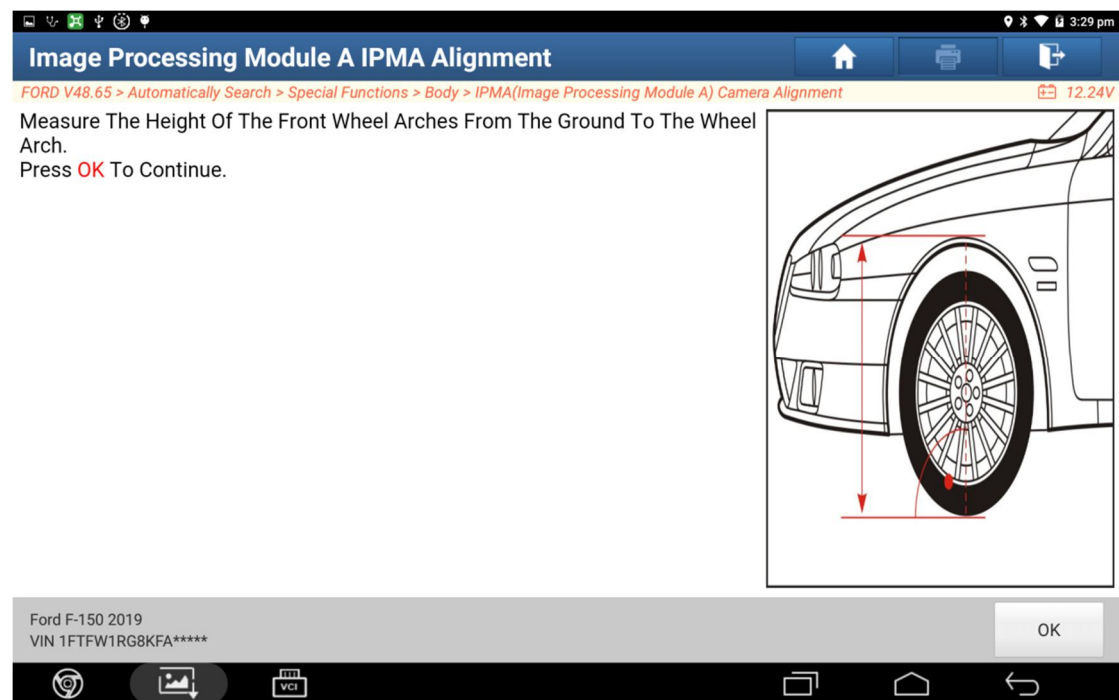

Figure 12
11. Prompt the measurement position (Figure 12).